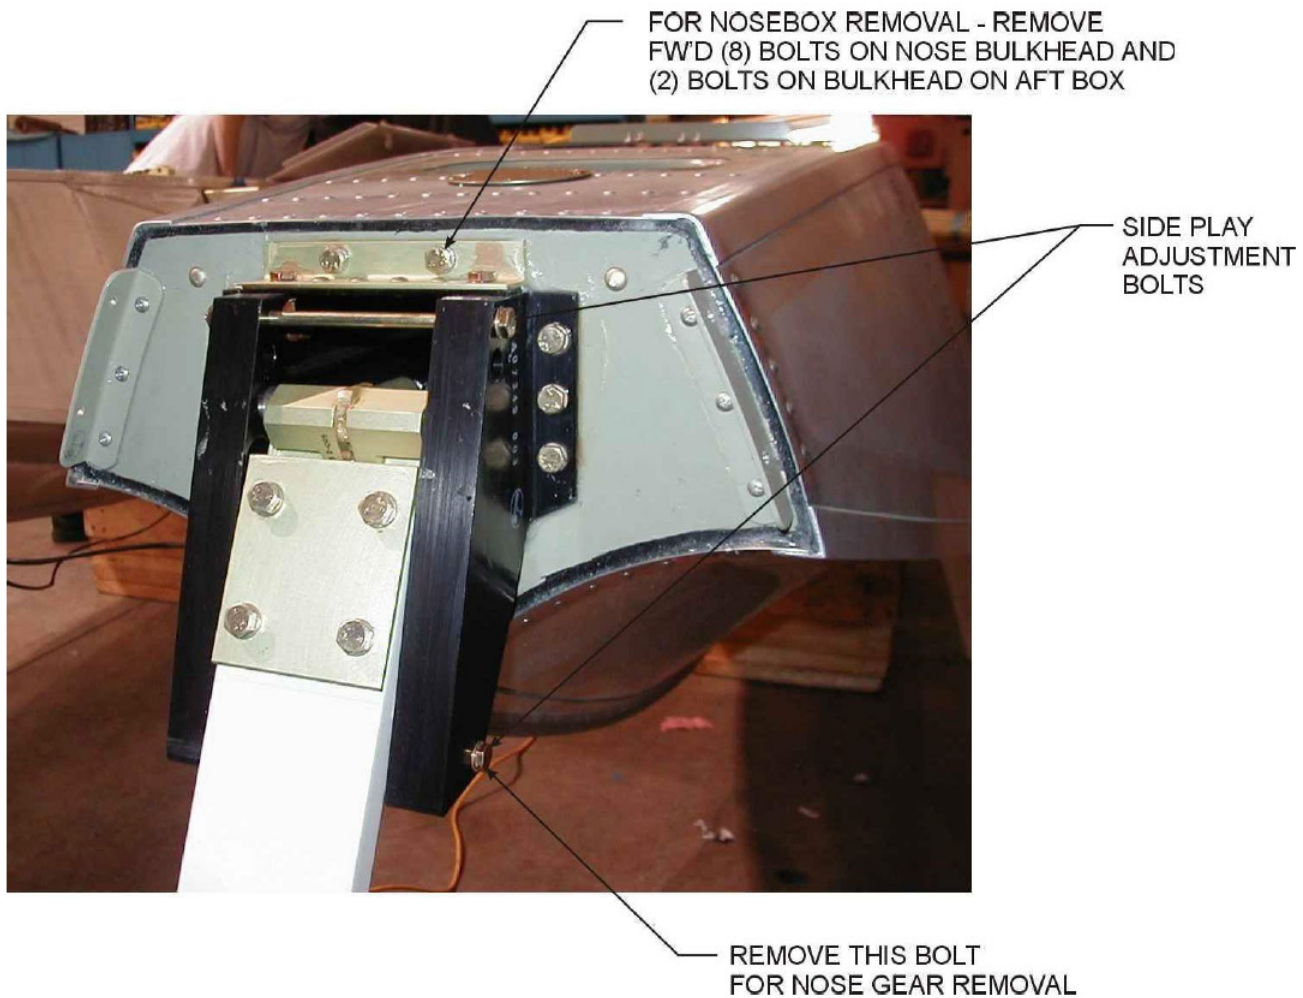

FIGURE 7-3 FRONT VIEW NOSE BOX
7. Remove long ¼ inch diameter bolt on lower end of nose gear fork (refer to Figure 7-3).
6. Bring gear to down and locked position and set side play adjustment. These are the two (2) long ¼ inch bolt that (refer to Figure 7-3) are horizontal through the nose fork.